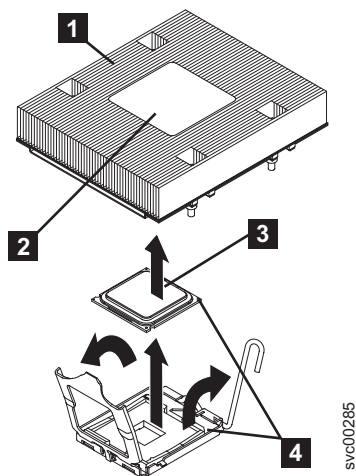

Figure 254. Removing the heat sink from the microprocessor
3. Remove the heat sink (**1** in Figure 254). Loosen two captive screws on alternate sides of the heat sink fully before loosening the other two captive screws. (This helps to break the bond between the heat sink and the microprocessor.) After the captive screws are loosened, remove the heat sink.